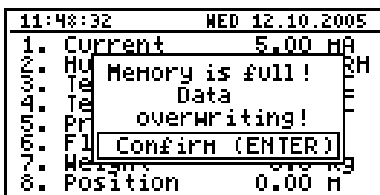

Fig. 7.16. Warning in “cyclic” recording mode
- "cyclic"** - after filling all the available memory with recorded measurement results, the measurement results recorded next will be written from the starting address in the memory, overwriting previously recorded data. During the first overwriting operation a warning message (Fig. 7.16) will be displayed; this message must be confirmed with the [ENTER] key. This warning shall be repeated when the unit is switched on. Instead of "Time left" parameter in the "Device information" menu the display will show the "Data overwriting" message. If the collected measurement results will be downloaded to a PC before memory is full, the warning message will not be displayed.